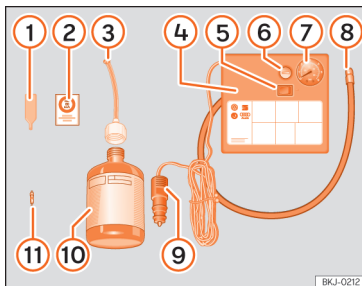

Fig. 96 Standard display: contents of the anti-puncture kit.
»» **Fig. 96:**
Screw in the inflator tube »» **Fig. 96** ⑧ again and check the pressure on the gauge ⑦.